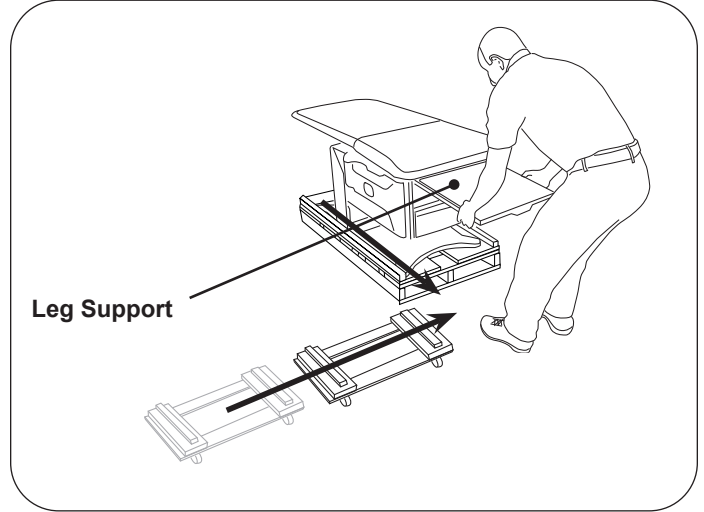

Figure 16. Slide Table off of Pallet
15. Use leg support to slide table partially off of pallet. Stop when there is sufficient room to place a furniture dolly beneath base of table. Finish pulling table onto furniture dolly (Figure 16).